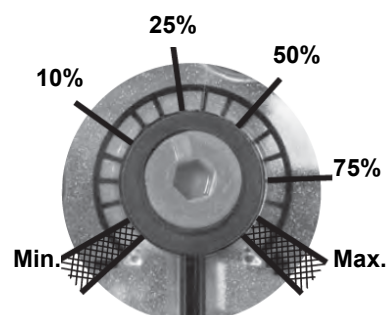

Fig. 11
**ATTENTION:** To set the outlet pressure of the VD-R regulator, act on the adjustment ring nut (Fig. 10). The position of the indicator in the dial indicates the value of the outlet pressure calculated as a percentage of the full scale of the PS sensor (Fig. 11)